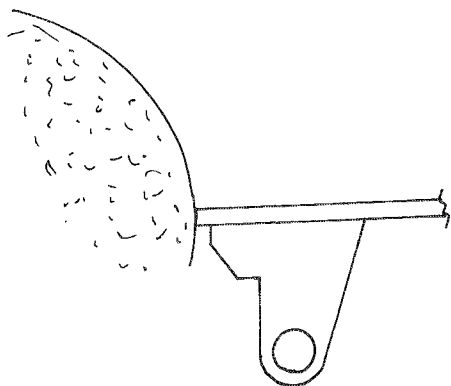

Fig. 8.11 Tool rest position.
- Remove any build-up of resin from the beds, fences and other areas. A good scraper is useful here but it is also a good idea to soften the resin with a suitable component cleaner first. As in most of the chapters of this book, paraffin and oil will be suitable as the softening agent and a good scraper can be made out of an old mill file. Using a bench grinder with the rest set so as to grind the end of the file flat (not producing a point) lightly grind the end to a very slight curve (Figs 8.11 and 8.12). It is surprising just how efficient this tool will be at removing unwanted build-up on beds, fences and other component parts.